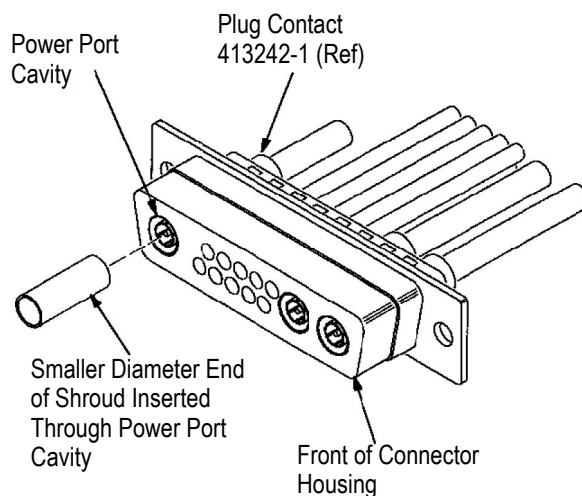

Figure 2
1. Insert the shroud (smaller diameter end first) into the power port cavity through the front of the connector housing. See Figure 2.